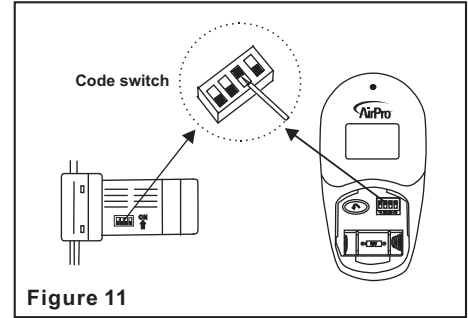

Figure 11
**NOTE:** This remote control unit is equipped with 16 code combinations to prevent possible interference from or to other remote units. The frequency switches on your receiver and transmitter have been preset at the factory. Please recheck to make sure the switches on the transmitter and the receiver are set to the same position, any combination of settings will operate the fan as long as the transmitter and receiver are set to the same position. (Figure 11)